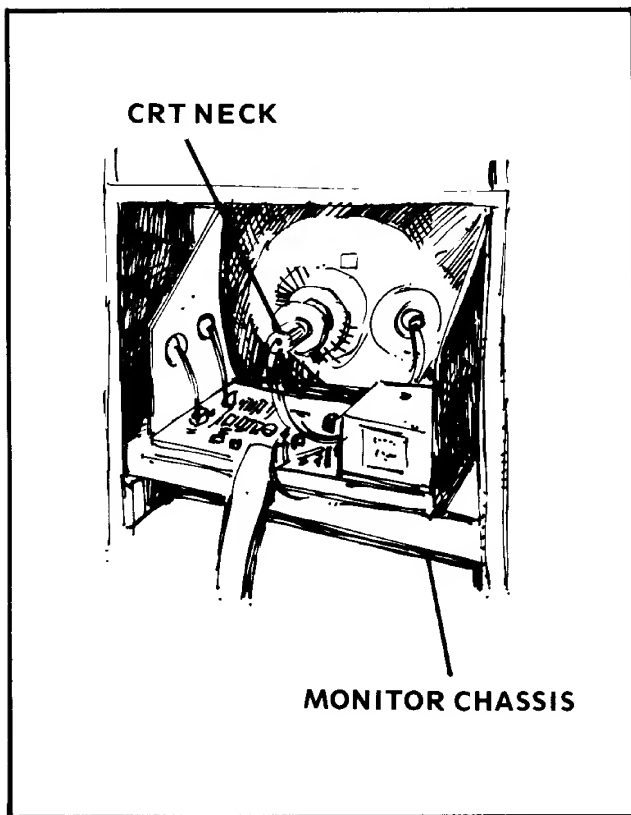

Figure 4-2 CRT Magnetic Centering Rings Location
- (a) Turn the two CRT magnet rings, located on the neck of the CRT as illustrated in Figure 4-2, until the point where the X and the Y lines meet is centered on the monitor screen.